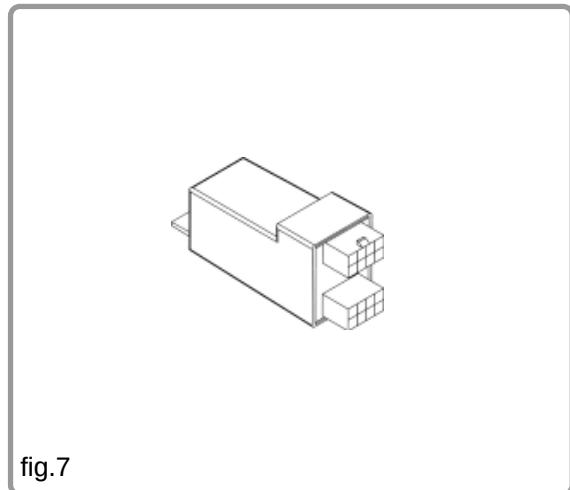

fig.7
- Los focos Microled Plus-V han de conectarse al flasher MLP-F4 (ver fig.7).
- Microled Plus-V lights must be connected to MLP-F4 flasher (see fig.7).